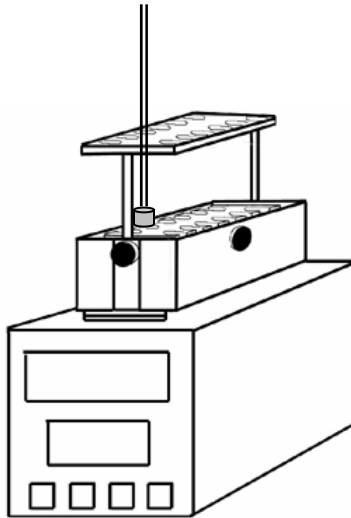

Figure 5. Terminus in the curing oven.
Step 15 - Place the cure adapters in the curing oven, and position the cable vertically over the oven using the cable stand, see figure 5. Cure the epoxy, with the programmable oven, using the curing schedule specified by the adhesive system manufacturer. (NOTE: When the cable is positioned above the terminus, make sure that no bends are placed in the simplex cables. Each simplex cable should enter the terminus parallel to the terminus. Be sure no fiber cable pull back has occurred.)